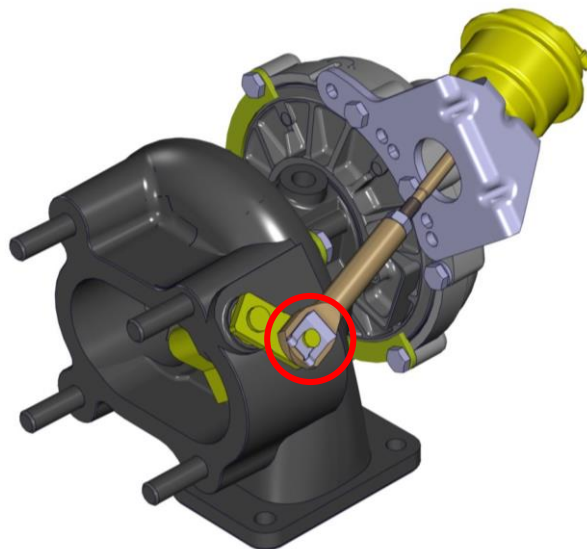

Figure 4: Waste Gate Circlip
4. If MSB-E4-024/1 or RSB-E4-024 is not installed, replace the circlip DIN6799-5 with the spring loaded circlip E4A-41-100-801. For removal and installation refer to Maintenance Manual E4.08.04. Refer also to figure 4